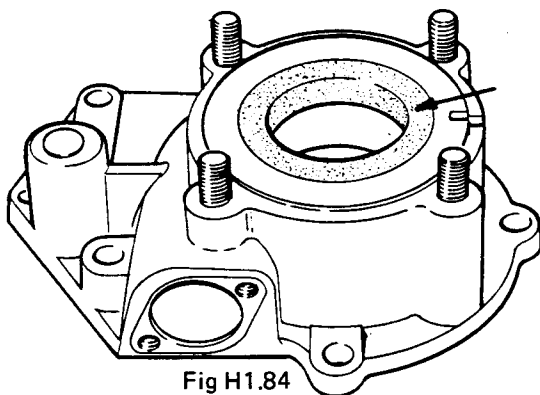

Fig H1.84
- (6) Refer to Fig H1.84. Remove the output shaft oil seal.